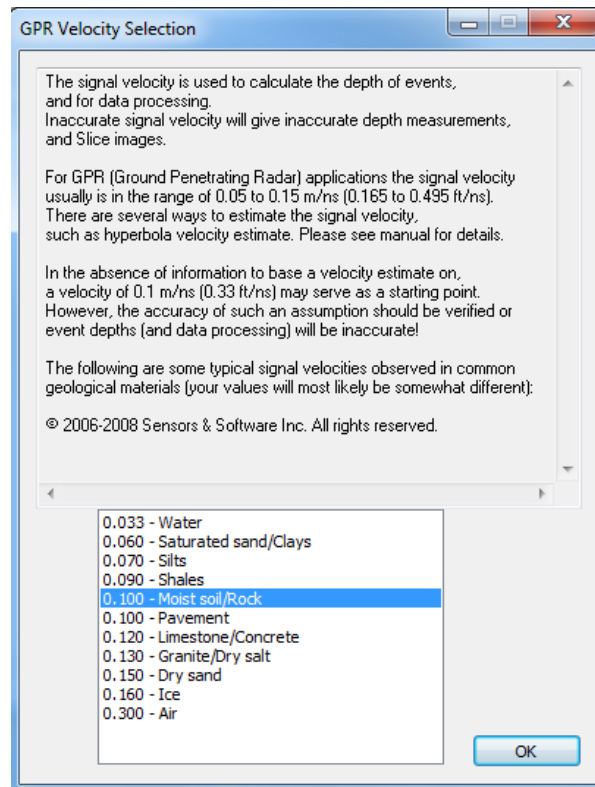

Figure 6-25: Velocity Table
If you need help selecting an appropriate velocity, click on the “..” button beside the velocity value and a table of typical velocity values for various materials is displayed (Figure 6-25). The velocities are listed in meters per nanosecond or feet per nanosecond depending on the setting for units (0); the default velocity is 0.10 m/ns or 0.328 ft/ns.